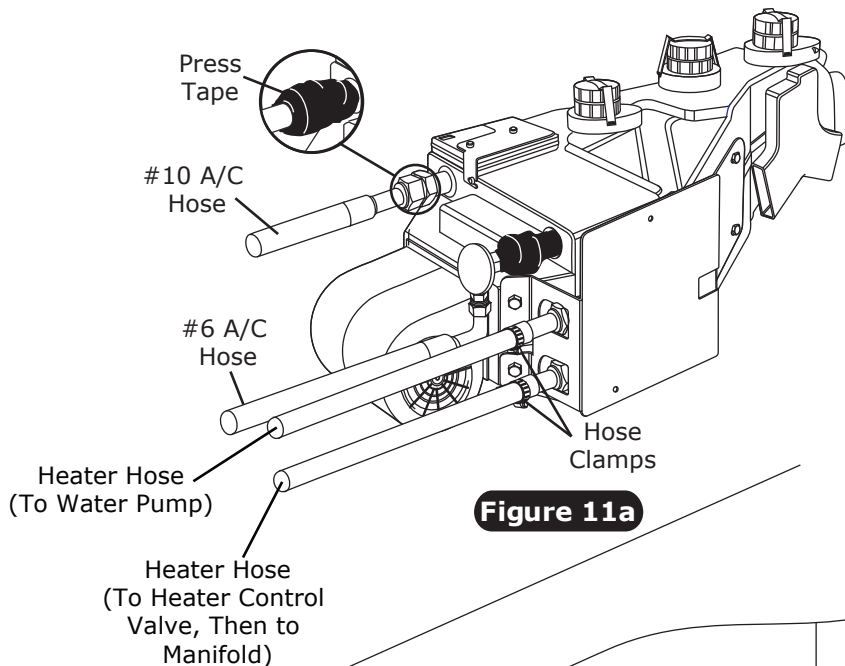
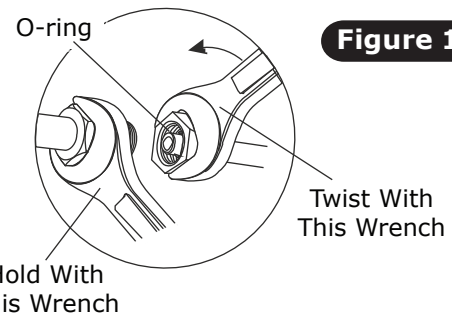
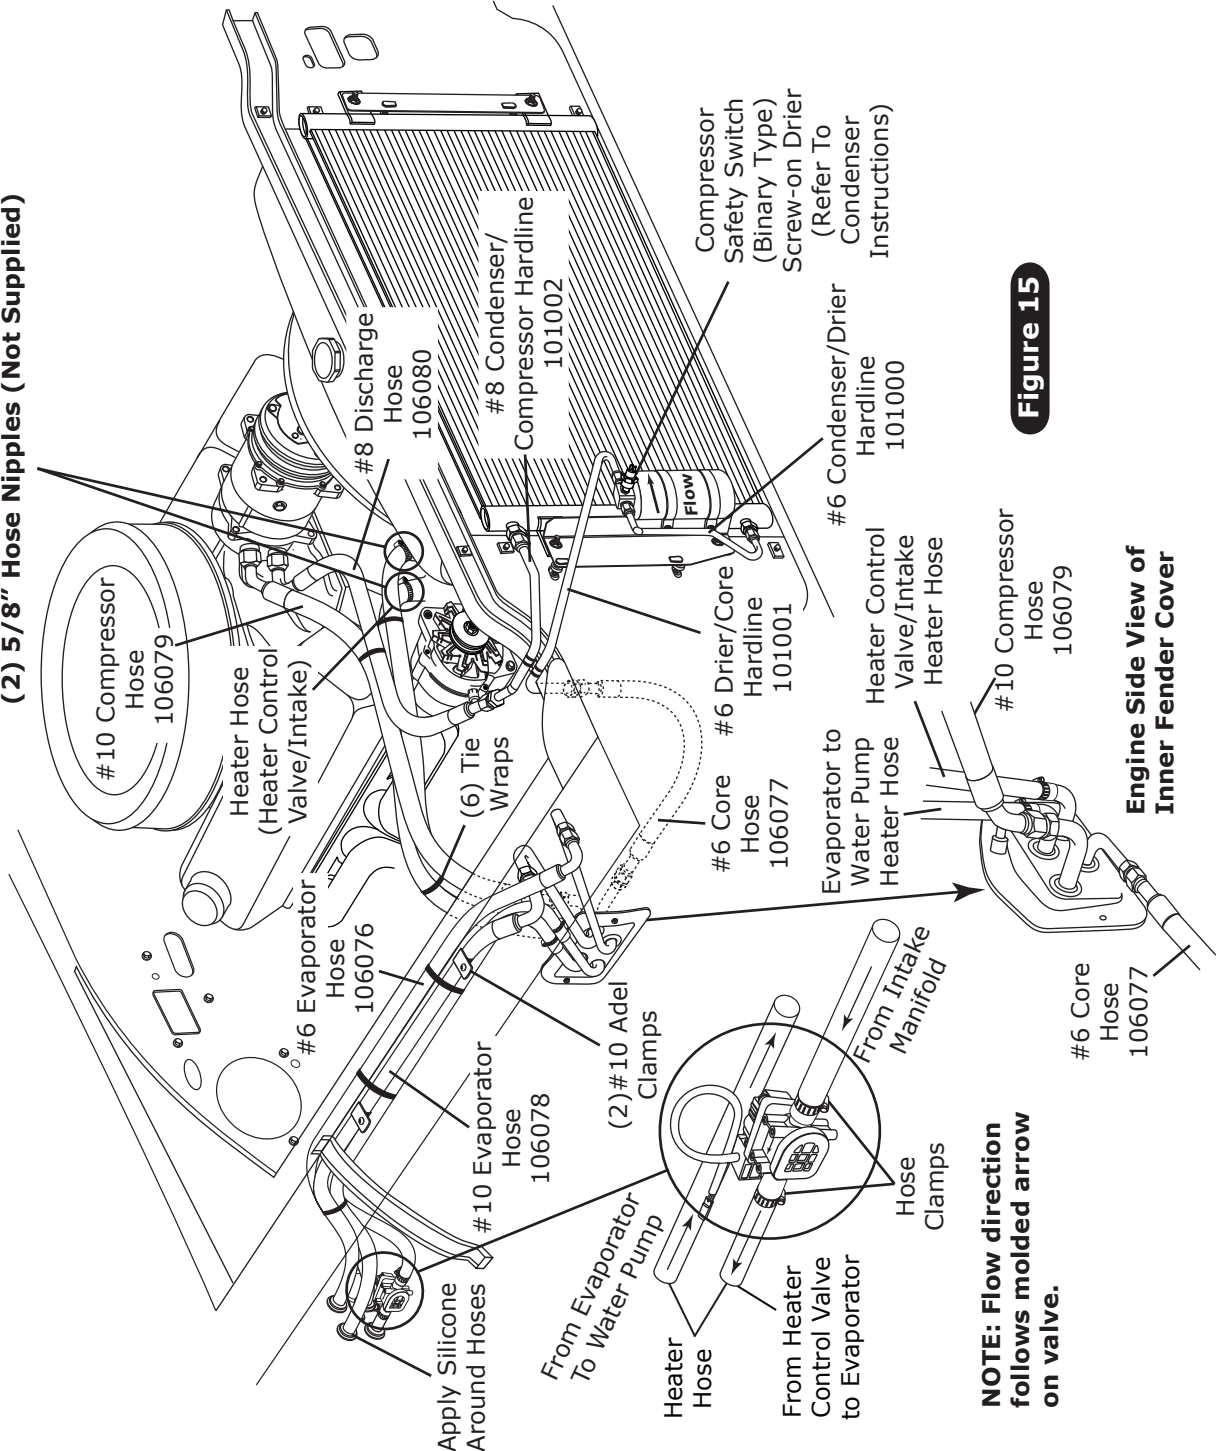

Figure 11a
Figure 14
Figure 15
1. On a workbench, install evaporator rear bracket and heater hose fittings with properly lubricated O-rings (See Figure 8, Page 10, and Figure 14, Page 14).
1. Install A/C and heater hoses (See Figure 11a, below).
1. Locate the #8 compressor A/C hose. Lubricate (2) #8 O-rings and connect the 90° female fitting to the #8 discharge port on the compressor. Then route the straight female fitting with R134a service port to the #8 condenser hardline coming over the core support. Tighten each fitting connection as shown in Figure 14, above.
2. Locate the #10 compressor A/C hose. Lubricate (2) #10 O-rings and connect the 45° fitting to the #10 suction port on the compressor. Route the 45° female fitting with R134a service port to the #10 hardline on the inner fender cap. Lubricate (2) #10 O-rings and connect the 90° female fitting in the wheel well to the #10 hardline on the inner fender cap. Then route the straight female fitting from the inner fender cap to the #10 fitting on the evaporator (See Figure 11a, Page 12 and Figure 15, Page 15). Tighten each fitting connection as shown in Figure 14, above.
3. Locate the #6 evaporator A/C hose. Lubricate (2) #6 O-rings and connect the straight female fitting to the #6 hardline coming over the core support from the drier. Route the straight female fitting to the #6 hardline on the inner fender cap. Lubricate (2) #6 O-rings and connect the 90° female fitting in the wheel well to the #6 hardline on the inner fender cap. Then route the 90° female fitting from the inner fender cap to the #6 fitting on the evaporator (See Figure 11a, Page 12 and Figure 15, Page 15). Tighten each fitting connection as shown in Figure 14, above.
1. In engine compartment, route a piece of heater hose from the water pump to the top heater fitting on the inner fender cap (See Figure 15, below). Secure using hose clamps.
2. In engine compartment, route a piece of heater hose from the intake to the bottom heater fitting on the inner fender cap (See Figure 15, below). Secure using hose clamps.
3. In wheel well, route a piece of heater hose from the top heater fitting on the inner fender cap to the top heater fitting of the heater core as shown in Figure 11a, Page 12, and Figure 15, below. Secure using hose clamps.
4. In wheel well, route a piece of heater hose from the bottom heater fitting on the inner fender cap to the bottom heater fitting of the heater core as shown in Figure 11a, Page 12, and Figure 15, below. Secure using hose clamps. **NOTE: Install heater control valve in line with intake manifold (pressure side) heater hose, and secure using hose clamps as shown in Figure 15, below. Also note proper flow direction.**
5. Apply a bead of silicone around each hose where it passes through the grommet in the wheel well (See Figure 15, below).